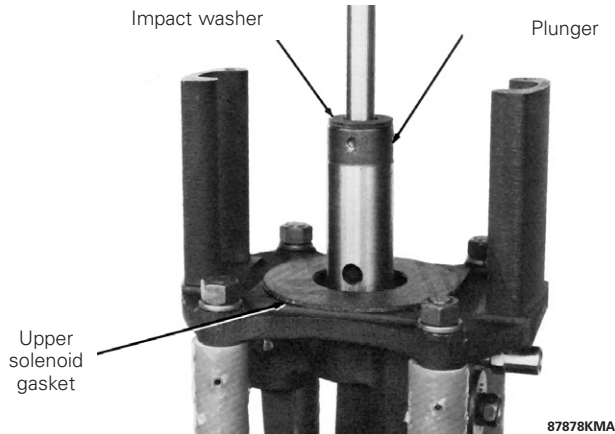

Figure 18. Removing upper solenoid gasket and impact washer
4. Remove the coil shield (Type H only), bridge plate, lower solenoid gasket, and solenoid coil shown in Figure 18